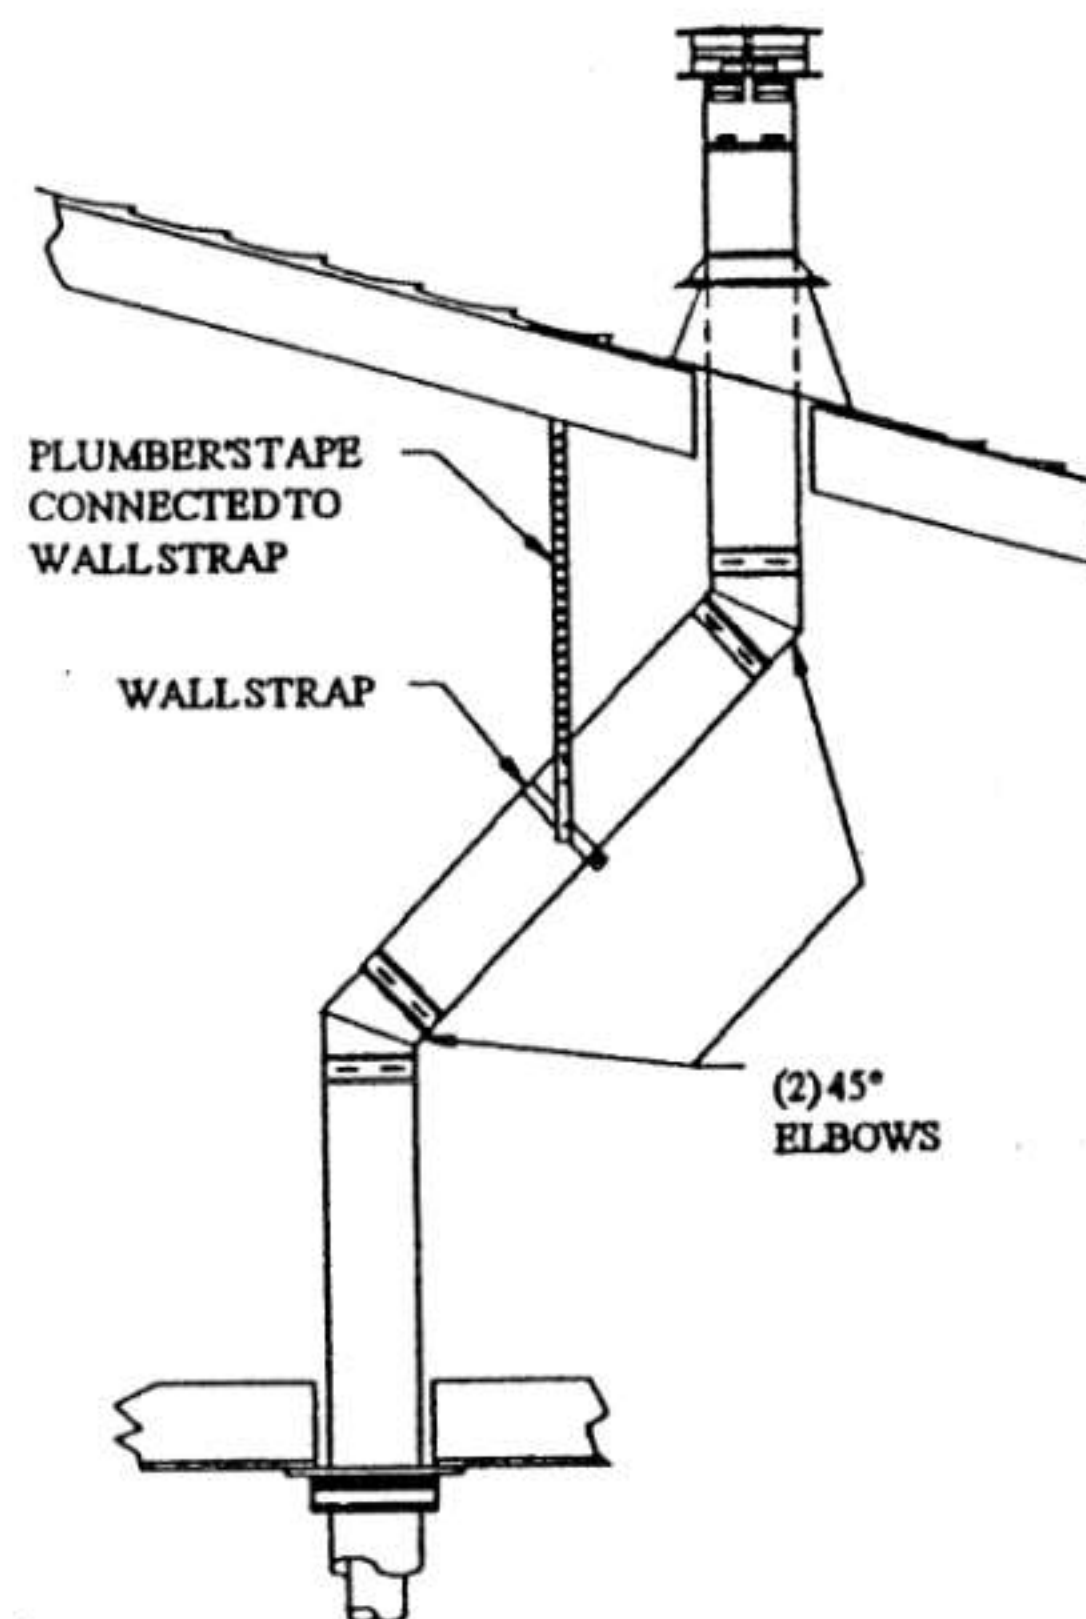

Fig. 7
- 2) Set the gas appliance in its desired location. Drop a plum bob down from the ceiling to the position of the appliance flue exit, and mark the location where the vent will penetrate the ceiling. Drill a small hole at this point. Next, drop a plumb bob from the roof to the hole previously drilled in the ceiling, and mark the spot where the vent will penetrate the roof. Determine if ceiling joists, roof rafters or other framing will obstruct the venting system. You may wish to relocate the appliance or to offset, as shown in Fig. 7 to avoid cutting load bearing members.
NOTE: If an offset is necessary in the attic to avoid obstructions, it is important to support the vent pipe every 3 feet, to avoid excessive stress on the elbows, and possible separation. Wall Straps are available for this purpose. Fig. 7.